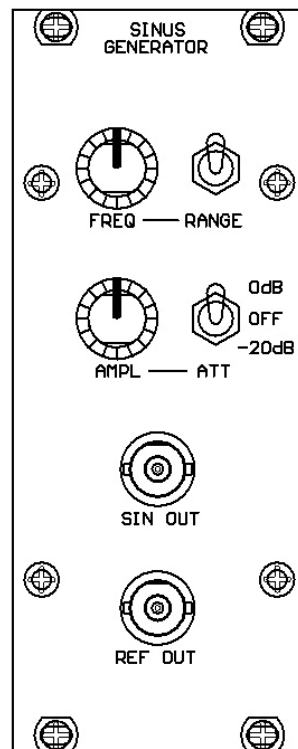

Figure 12. Front panel of the Sinus Generator module
Simple Sinus Generator module (SG) is added for driving the PZT voltage or the laser diode current. BNC monitor output with constant level sinus signal is useful for synchronization of the oscilloscope or measurement devices to the process under observation. In Figure 12 the front panel of the Sinus Generator is presented.